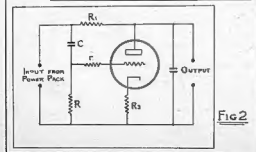

Fig 2
Fig. 2 shows a modification suitable for, say a laboratory power-pack which may be used on various fixed loads without further adjustment. The performance is independent of the load, but this is at the expense of voltage regulation. R_1 should now have a value of $1/g_m$ plus $83 (\frac{1}{\mu} + 1/u)$. Using an MH4, R_3 can be 750 ohms, and R_1 will have to be 1,070 ohms. But again, for best results, adjustment should be made by the use of a cathode ray oscilloscope. The resistance (R) is included to limit grid current when the load is suddenly increased; it can be 50,000 ohms. The voltage regulation is made worse by about 1 volt for every mA in the load.